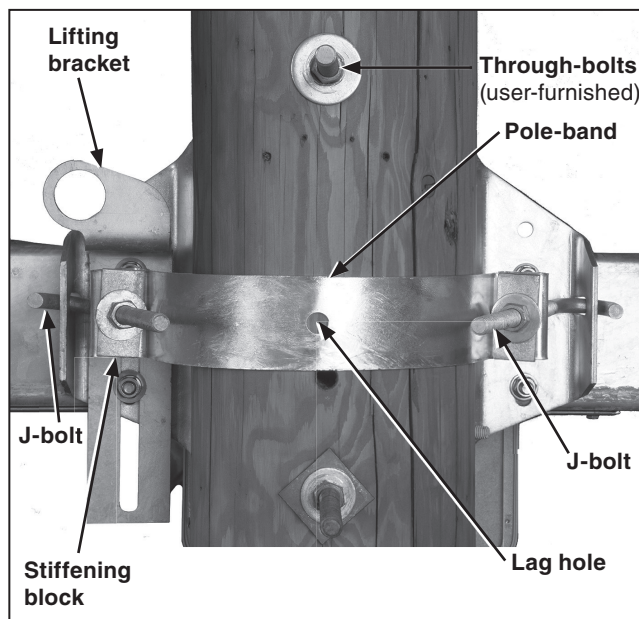

Figure 5. Rear of the pole showing the mounting hardware and the optional J-bolts and pole band.
STEP 6. Secure the optional pole band to the pole-saddle using the J-bolts provided. Two $\frac{1}{4} \times 1 \times 3$ -inch (6 × 25 × 76-mm) stiffening blocks are furnished to be used behind the pole-band flanges and underneath the J-bolt nuts. Fully tighten the nuts. Attach the pole band to the back side of the pole through the hole in the center of the band using one of the three $\frac{1}{2}$ -inch diameter lag screws provided. See Figure 5. Then, attach the pole-saddle to the pole using the two remaining $\frac{1}{2}$ -inch diameter lag screws.